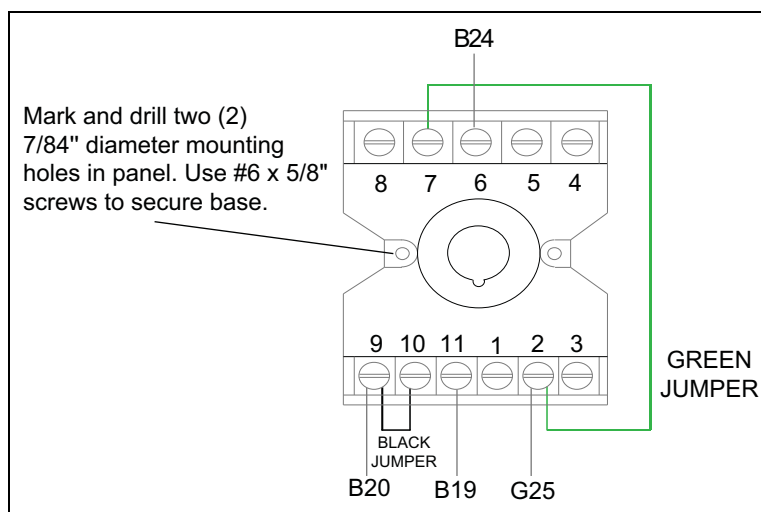

Figure 3
Mark new mounting hole locations and drill two (2) 7/64" diameter holes. Mount base onto the chassis panel using the two (2) #6 x 5/8" long type B screws. (See Figure 3.)